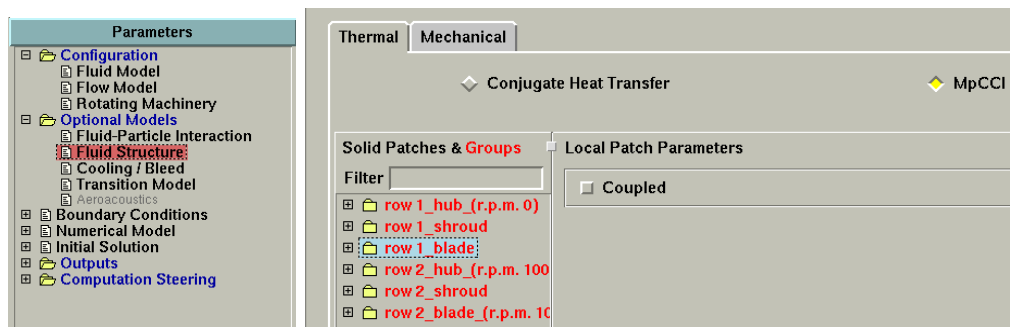
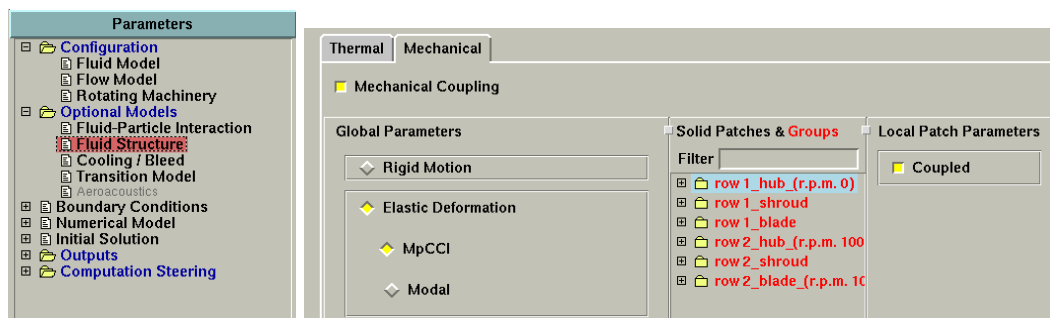

Figure 2: Setting coupled thermal boundaries in FINE/Turbo GUI
Figure 3: Setting coupled mechanical boundaries in FINE/Turbo GUI
2. If you are familiar with FINE/Turbo, you can set up your model as usual and activate the boundaries by yourself for the coupling (▷ 7.2.1 Model Preparation ◁) in FINE/Turbo GUI: Optional Models - Fluid Structure - Thermal or Mechanical (see Figure 2, Figure 3). In this scenario you will have a scan method option in the Models Step of MpCCI GUI to select only the boundaries you have prepared for the MpCCI coupling (see ▷ 7.2.2 Models Step ◁).